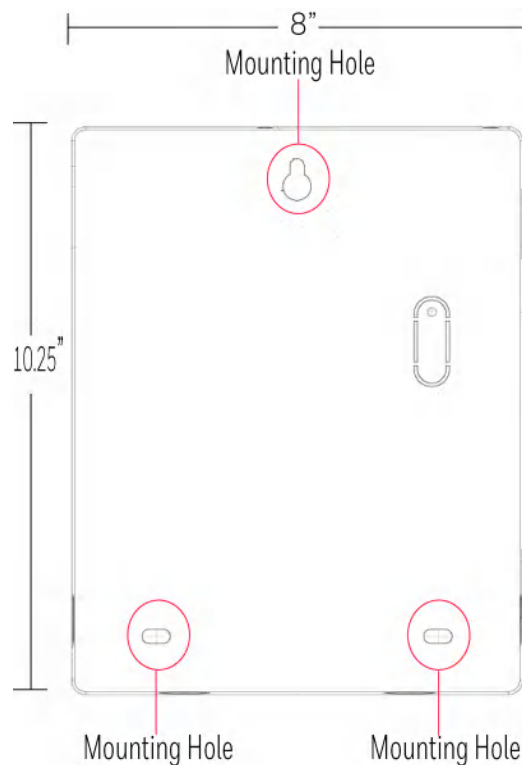

Figure 3.3: Mounting the Backbox
9. Mark and pre-drill the hole for the top mounting bolt (see Figure 3.3).